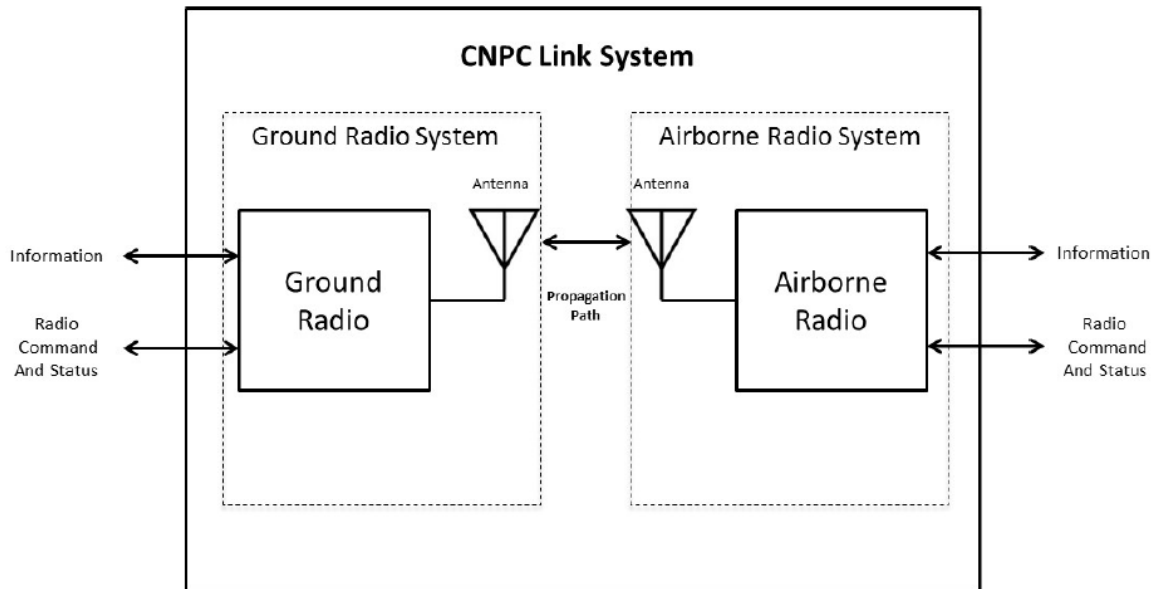

Figure 1: RTCA DO-362A illustration of CNPC link system components
Figure 1 illustrates the RTCA DO-362A representation of a CNPC link system.
**Error! Reference source not found.** provides a comparison matrix between GRS models to aid in product selection Figure 1.